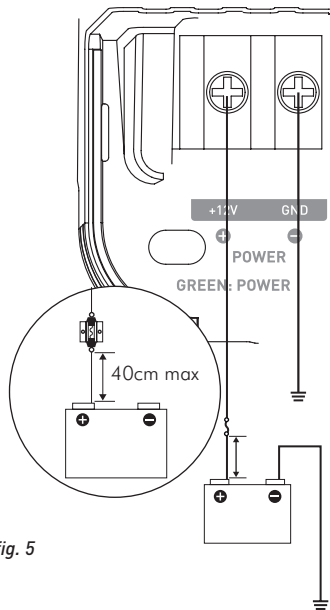

fig. 5
- 9 - Always protect the battery and electric circuit from potential damage with fuses. Install a fuse holder and adequate fuses on the 12V positive (+) power cable less than 40cm away from the battery terminal. Ideally, this above-mentioned distance should be as short as possible (fig.5).
Prepare the positive power cable (+) to connect it to the amplifier by using the adequate Y-type spade terminal, then block the cable by screwing tight. (fig. 5)